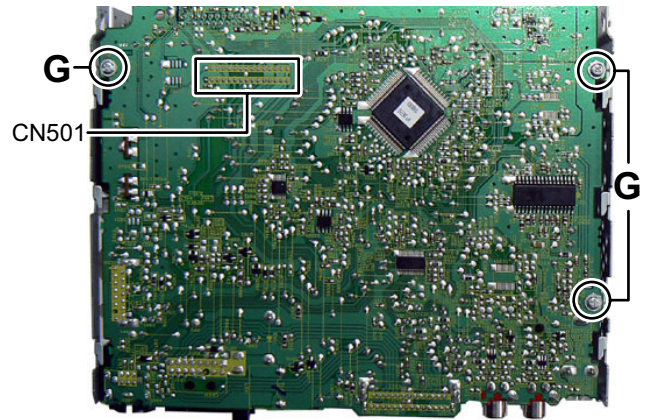

Fig.5
- (3) Remove the three screws **G** attaching the Main board. (See Fig.5)
- (4) Disconnect the B-B connector connected CD mechanism and Main board **CN501** of the Main board. (See Fig.5)